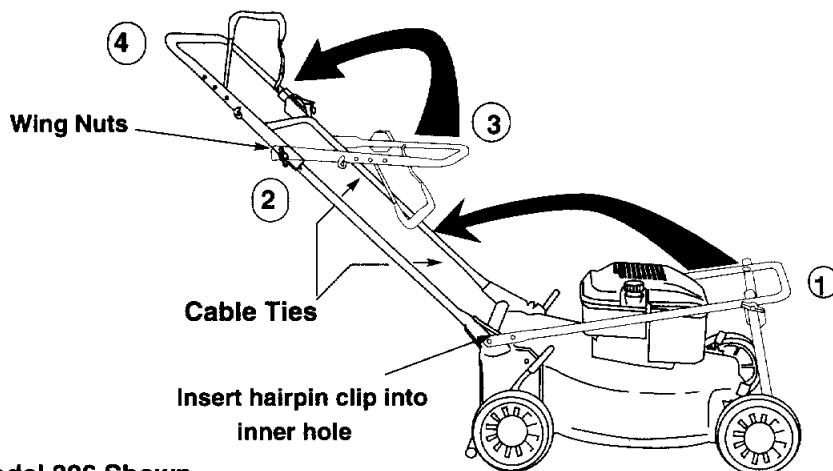

FIGURE 4
(Refer to Figure 4.)
- Raise the lower handle from position 1 to position 2 as shown in figure 4. You may have to spread the lower handle slightly to move it around the height adjustment lever. The lower handle should snap into place.
- Raise the upper handle from position 3 to position 4 as shown in figure 4. Tighten the wing nuts which are already on the handle.
- Tighten the cable ties to secure all the cables on the lower handle in place and prevent them from becoming in the way. Refer to figure 4.